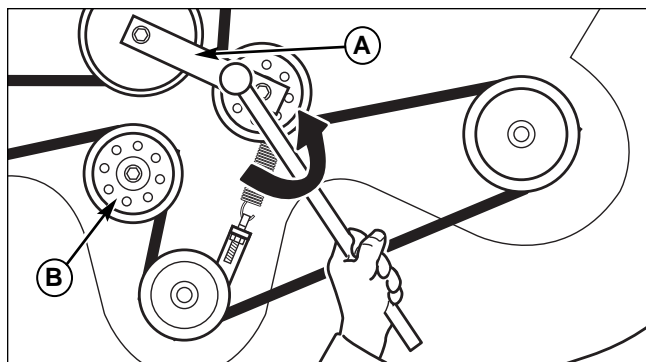

Figure 44. Release Belt Tension
4. Using a 1/2" breaker bar, place the square end in the square hole located in the idler arm (A, Figure 44). Carefully rotate the breaker bar COUNTER-CLOCKWISE, which will relieve the tension on the belt exerted from the idler arm. Slide the belt off the stationary idler pulley (B).
7. Install the belt on the PTO pulley, the spindle pulleys and all the idler pulleys except the stationary idler pulley (B, Figure 44). Carefully rotate the breaker bar COUNTER-CLOCKWISE and install the belt on the stationary idler pulley. Carefully release the tension on the breaker bar.